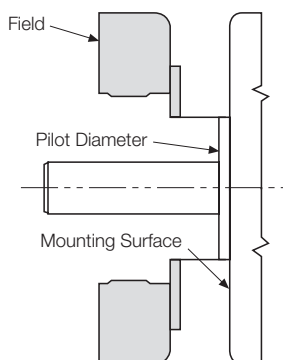

Figure 2
2. An appropriate pilot diameter must be provided on the mounting surface as well. (Figure 2)